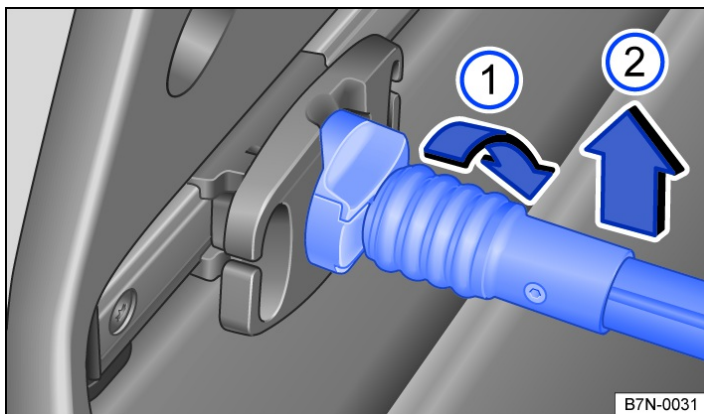

Fig. 2 In the luggage compartment: unhooking the net cover.
- Turn the retaining rod by 90° in the direction of the arrow → Fig. 2 ① until the red marking on the rod is visible.
- Remove the retaining rod in upward direction → Fig. 2 ②.